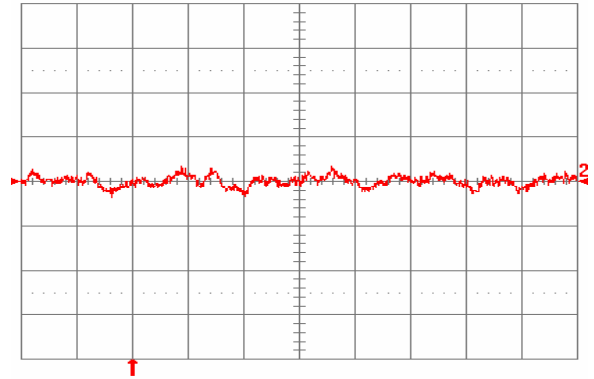

**Fig. 6.0V.14:** Test Setup for measuring input reflected ripple currents,  $i_c$  and  $i_s$ .
**Fig. 6.0V.1:** Available load current vs. ambient air temperature and airflow rates for SQ48T08060 converter with D height pins mounted vertically with  $V_{in} = 48\text{ V}$ , air flowing from pin 3 to pin 1, and maximum FET temperature  $\leq 120\text{ }^\circ\text{C}$ .
**Fig. 6.0V.2:** Available load current vs. ambient air temperature and airflow rates for SQ48T08060 converter with D height pins mounted horizontally with  $V_{in} = 48\text{ V}$ , air flowing from pin 3 to pin 1, and maximum FET temperature  $\leq 120\text{ }^\circ\text{C}$ .
**Fig. 6.0V.3:** Available load current vs. ambient air temperature and airflow rates for SQ48S08060 converter mounted vertically with  $V_{in} = 48\text{ V}$ , air flowing from pin 3 to pin 1, and maximum FET temperature  $\leq 120\text{ }^{\circ}\text{C}$ .
**Fig. 6.0V.4:** Available load current vs. ambient air temperature and airflow rates for SQ48S08060 converter mounted horizontally with  $V_{in} = 48\text{ V}$ , air flowing from pin 3 to pin 1, and maximum FET temperature  $\leq 120\text{ }^{\circ}\text{C}$ .
**Fig. 6.0V.5:** Efficiency vs. load current and input voltage for SQ48T/S08060 converter mounted vertically with air flowing from pin 3 to pin 1 at a rate of 300 LFM (1.5 m/s) and  $T_a = 25\text{ }^{\circ}\text{C}$ .
**Fig. 6.0V.6:** Efficiency vs. load current and ambient temperature for SQ48T/S08060 converter mounted vertically with  $V_{in} = 48\text{ V}$  and air flowing from pin 3 to pin 1 at a rate of 200 LFM (1.0 m/s).
**Fig. 6.0V.7:** Power dissipation vs. load current and input voltage for SQ48T/S08060 converter mounted vertically with air flowing from pin 3 to pin 1 at a rate of 300 LFM (1.5 m/s) and  $T_a = 25\text{ }^\circ\text{C}$ .
**Fig. 6.0V.8:** Power dissipation vs. load current and ambient temperature for SQ48T/S08060 converter mounted vertically with  $V_{in} = 48\text{ V}$  and air flowing from pin 3 to pin 1 at a rate of 200 LFM (1.0 m/s).
**Fig. 6.0V.9:** Turn-on transient at full rated load current (resistive) with no output capacitor at  $V_{in} = 48\text{ V}$ , triggered via ON/OFF pin. Top trace: ON/OFF signal (5 V/div.). Bottom trace: output voltage (2 V/div.). Time scale: 2 ms/div.
**Fig. 6.0V.10:** Turn-on transient at full rated load current (resistive) plus 10,000  $\mu\text{F}$  at  $V_{in} = 48\text{ V}$ , triggered via ON/OFF pin. Top trace: ON/OFF signal (5 V/div.). Bottom trace: output voltage (2 V/div.). Time scale: 5 ms/div.
**Fig. 6.0V.11:** Output voltage response to load current step-change (2 A – 4 A – 2 A) at  $V_{in} = 48$  V. Top trace: output voltage (100 mV/div.). Bottom trace: load current (2 A/div.). Current slew rate: 0.1 A/ $\mu$ s.  $C_o = 1$   $\mu$ F ceramic. Time scale: 0.2 ms/div.
**Fig. 6.0V.12:** Output voltage response to load current step-change (2 A – 4 A – 2 A) at  $V_{in} = 48$  V. Top trace: output voltage (100 mV/div.). Bottom trace: load current (2 A/div.). Current slew rate: 5 A/ $\mu$ s.  $C_o = 450$   $\mu$ F tantalum + 1  $\mu$ F ceramic. Time scale: 0.2 ms/div.
**Fig. 6.0V.13:** Output voltage ripple (50 mV/div.) at full rated load current into a resistive load with  $C_o = 10$   $\mu$ F tantalum + 1  $\mu$ F ceramic and  $V_{in} = 48$  V. Time scale: 1  $\mu$ s/div.
**Fig. 6.0V.15:** Input reflected ripple current,  $i_c$  (100 mA/div.), measured at input terminals at full rated load current and  $V_{in} = 48$  V. Refer to Fig. 6.0V.14 for test setup. Time scale: 1  $\mu$ s/div.
**Fig. 6.0V.16:** Input reflected ripple current,  $i_s$  (10 mA/div.), measured through 10  $\mu$ H at the source at full rated load current and  $V_{in} = 48$  V. Refer to Fig. 6.0V.14 for test setup. Time scale: 1  $\mu$ s/div.
**Fig. 6.0V.17:** Output voltage vs. load current showing current limit point and converter shutdown point. Input voltage has almost no effect on current limit characteristic.
**Fig. 6.0V.18:** Load current (top trace, 10 A/div., 20 ms/div.) into a 10  $m\Omega$  short circuit during restart, at  $V_{in} = 48$  V. Bottom trace (10 A/div., 1 ms/div.) is an expansion of the on-time portion of the top trace.